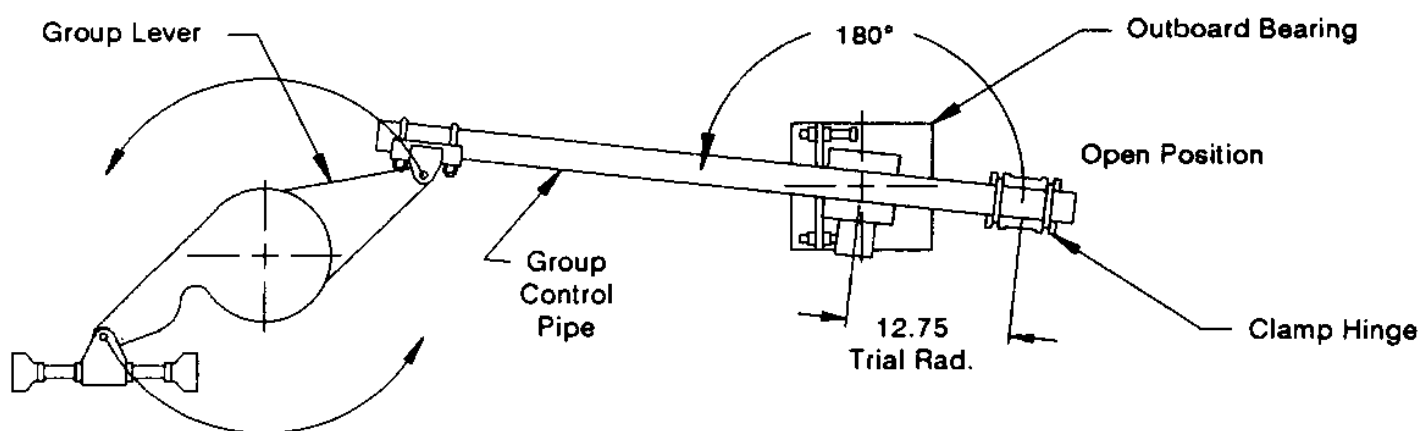

Figure 25 -- Outboard Bearing Detail
5. By reference to Figure 25, install group control pipe to the group control lever and then to the outboard bearing lever. Clamp hinges have been factory set in the proper positions on the group control pipe.